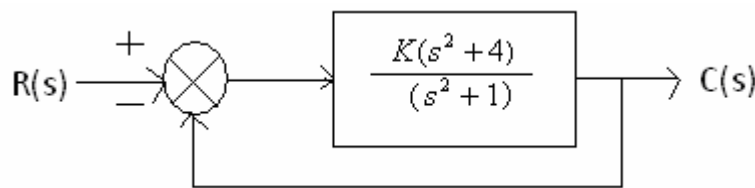

Figure 5:
1. Sketch the root locus for the unity feed back system shown below figure 5: [16]